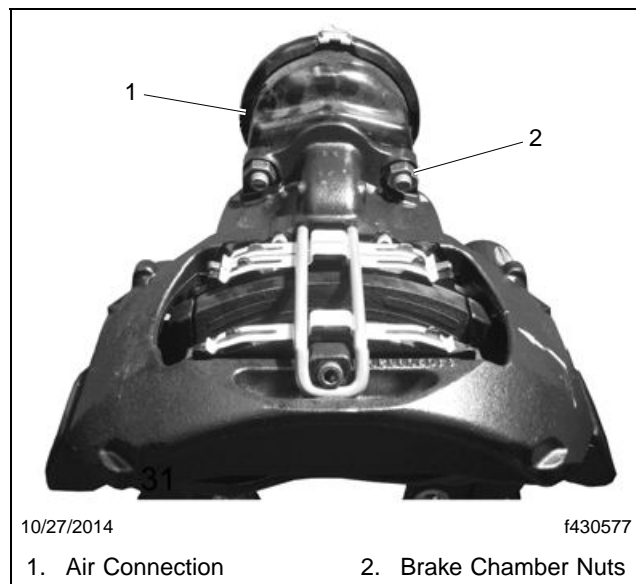

Fig. 1, Removing the Brake Chamber
8. Remove and discard the brake chamber mounting nuts. Ensure that dirt or moisture do not enter the brake when removing the brake chamber. See **Fig. 1**.
45. Install the air line on the brake chamber. See **Fig. 1**. Make certain the brake hose is not twisted and does not rub against other components.